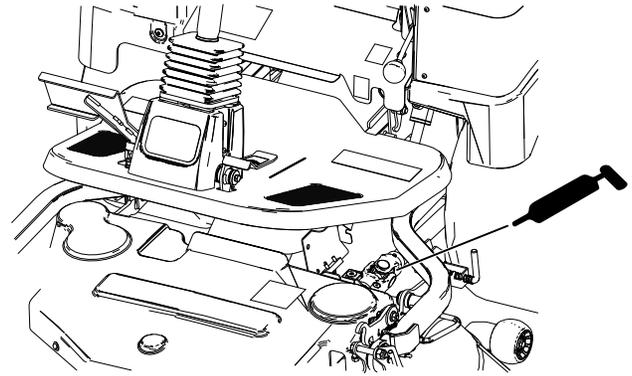

Figure 47
- Forward U-joint of the driveshaft at the mower gearbox (Figure 47).